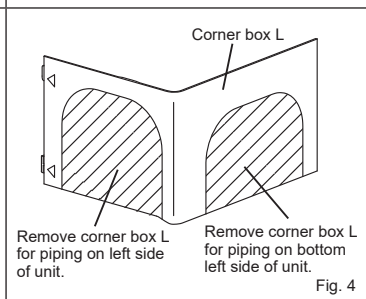
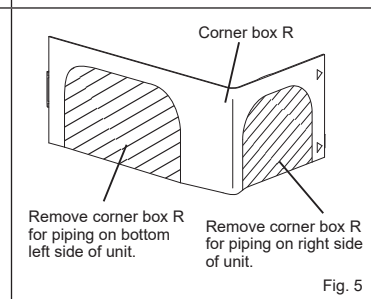

Fig. 4
Fig. 5
- 10) According to the piping direction, remove the shaded part of the corner box L (Fig. 4) or corner box R (Fig. 5). Reinstall electrical cover, corner box R and panel assembly.
- Insert the drain hose into wall hole sleeve (C), and attach the upper part of indoor unit onto the installation plate (1). Then, shift the indoor unit completely to the left to make placing the piping in the back of the unit easier.
- Cut out the spacer from the packaging styrofoam and set it on the rib on the back of the indoor unit. (Fig. 5)
- Connect the refrigerant piping with the extension pipe (B).
- Push the lower part of the indoor unit to fit into the installation plate (1), then attach the parts in the opposite steps of removal.